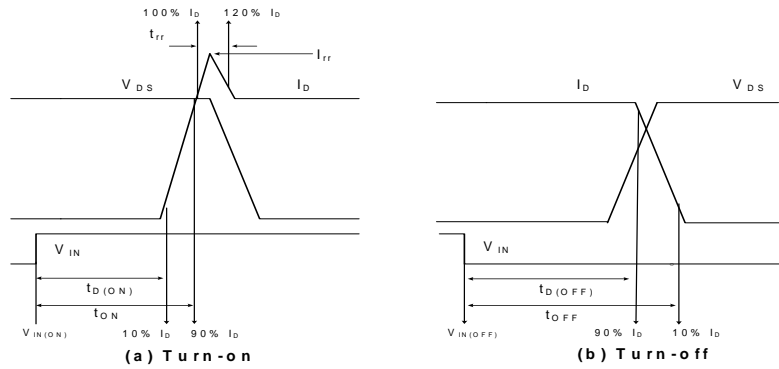
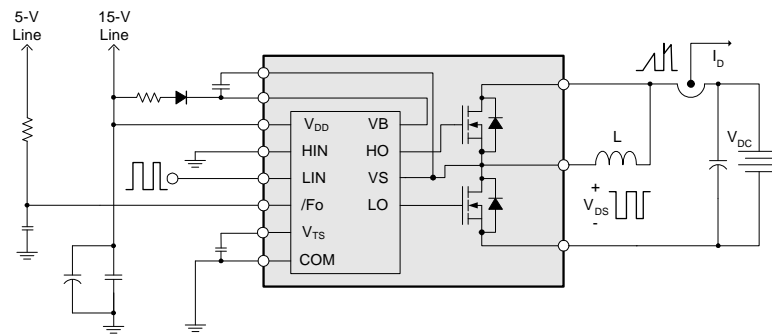

Figure 3. Switching Time Definition
Figure 4. Switching Test Circuit (Low-side)
- tON and tOFF include the propagation delay of the internal drive IC. Listed values are measured at the laboratory test condition, and they can be different according to the field applications due to the effect of different printed circuit boards and wirings. Please see Figure 3 for the switching time definition with the switching test circuit of Figure 4.